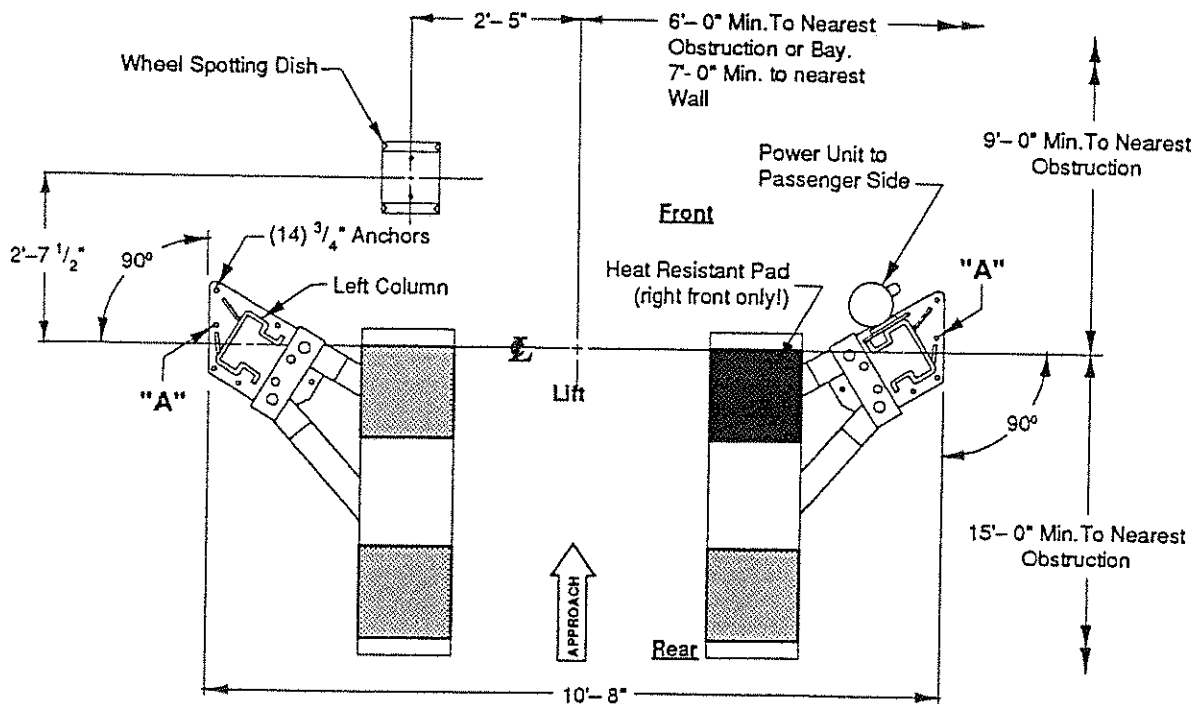

Fig. 1
1. **Lift Location:** Use architects plan when available to locate lift. Fig. 1. shows dimensions of a typical bay layout.
3. **Lift Positioning:** Position columns in bay using dimensions shown in Fig. 1. Place column with power unit mounting bracket on vehicle passenger side of lift. Both column base plate backs must be square on center line of lift. Notches are cut into each base plate to indicate center line of lift. Manually raise carriage to first latch position.
**Drill Only Holes Identified With "A" In Fig.1, And Install Two (2) Anchor Bolts. See P.7 For Drilling Instructions**